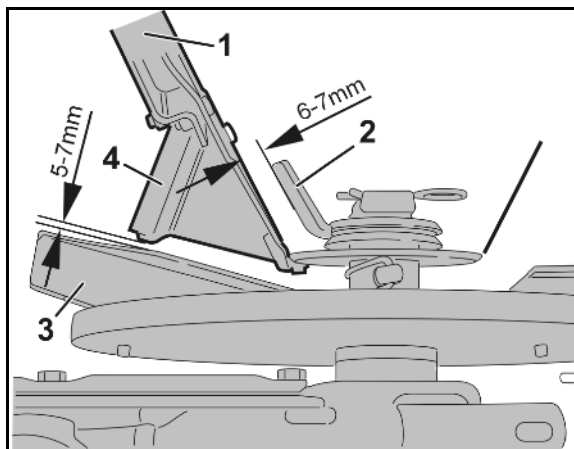

Fig. 101
2. Set slider position 11 via the setting levers (Fig. 101/1).